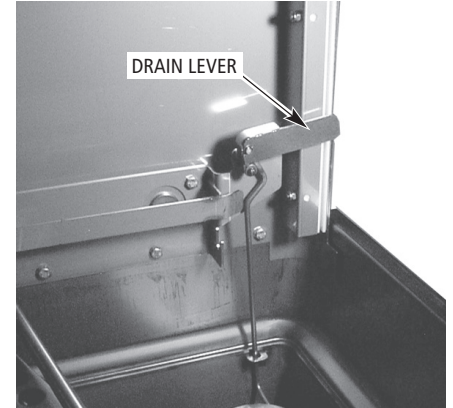

Figure 20
4. Drain the machine by lifting up the drain lever (*Figure 20*).